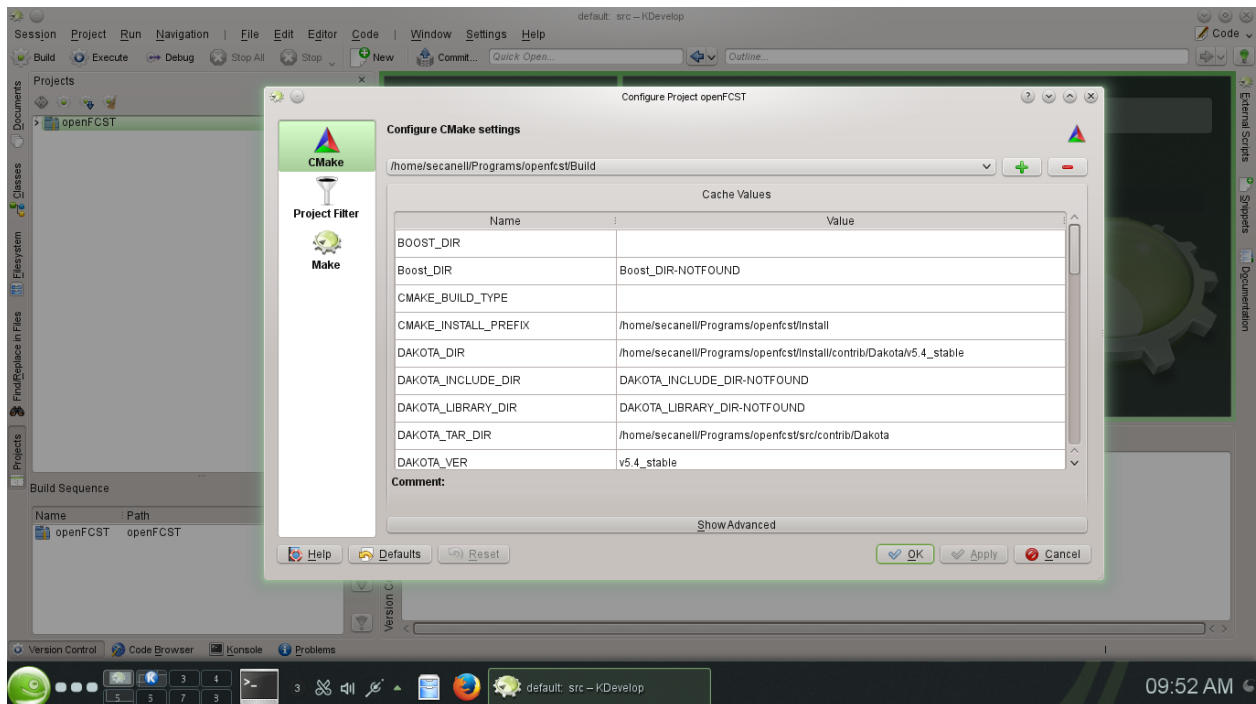

Figure 8.2: Configuring your CMake project in KDevelop.
- If you want to modify the compilation parameters in the project, you can do that by right clicking on the project name and selecting **Open Configuration....** The menu in Figure 8.2 would appear. You should not need to modify many parameters, however several parameters are handy. The variable `OPEN_FCST_BUILD_TYPE` allows you to compile the code in Debug or Release mode. The former is used during code development as it provides a lot more information about errors, the latter is best for simulations as the code can be several times faster. Another useful parameter is `OPEN_FCST_DIMENSIONS`. If set to 2, it will only compile a 2D version of OpenFCST. If you compile with 3, it will compile a 3D version. If you compile with 1, it will compile both 2D and 3D versions. Finally, on the left menu if you click on Make, the parameter `Number of simultaneous jobs` sets up the compilation for using as many threads as specified.